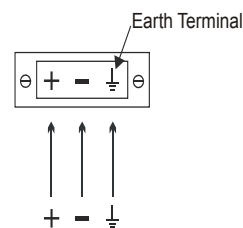

Figure 2-11 Separate Earth
- 2 For installations with a separate earth, connect the earth cable to the earth terminal (see Figure 2-11)